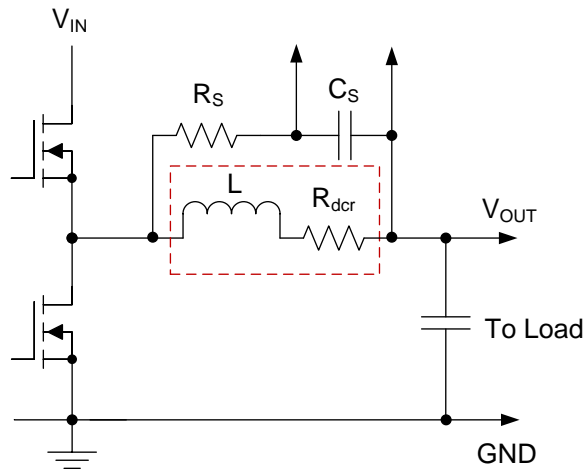
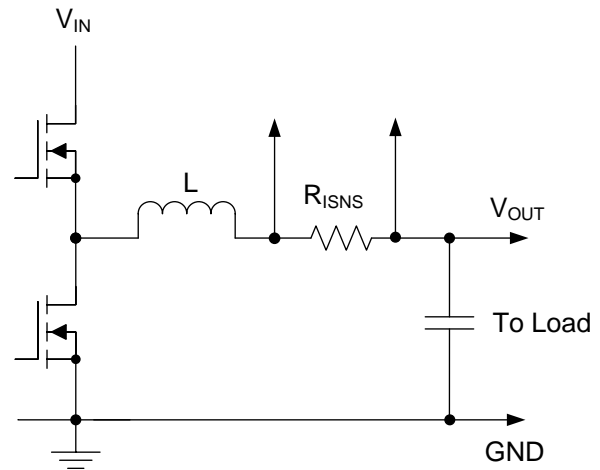
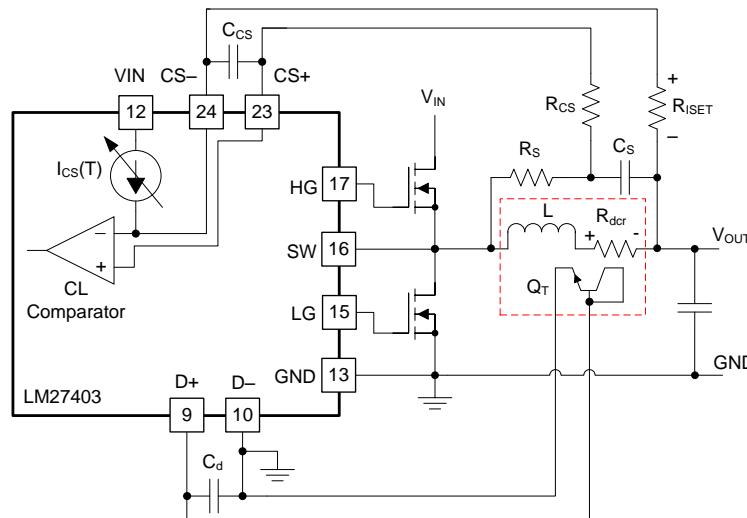

Figure 30. Current Sensing Using Inductor DCR
Figure 31. Current Sensing Using Shunt Resistor
Figure 32. Current-Limit Setpoint Defined by Current Source I_{CS} and Resistor R_{ISET}
As mentioned, the LM27403 implements an inductor DCR lossless current sense scheme designed to provide both accurate overload (current limit) and short-circuit protection. Figure 30 shows the popular inductor DCR current sense method. Figure 31 shows an implementation with current shunt resistor, R_{ISNS} .
Components R_{S} and C_{S} in Figure 30 create a low-pass filter across the inductor to enable differential sensing of the inductor DCR voltage drop. When $R_{\text{S}}C_{\text{S}}$ is equal to L/R_{DCR} , the voltage developed across the sense capacitor, C_{S} , is a replica of the inductor DCR's voltage waveform. Choose the capacitance of C_{S} greater than 0.1 μF to maintain low impedance of the sense network, thus reducing the susceptibility of noise pickup from the switch node.
The current limit circuit arrangement is portrayed in Figure 32. The current limit setpoint is set by a single external resistor, R_{ISET} , connected from the CS– pin to the output voltage terminal. The current sourced from CS– in combination with this series resistance sets the reference voltage to the current limit comparator, as governed by Equation 8.
Inductor DCR temperature compensation is automatically provided using the remote-diode sensed temperature. The temperature coefficient (TC) of the inductor winding resistance is typically 3720 ppm/°C. The current-limit setpoint is maintained essentially constant over temperature by the slope of CS– pin current over temperature. An increase in sensed DCR voltage associated with an increase of inductor winding temperature is matched by a concomitant increase in current limit comparator reference voltage. The inductor temperature is measured by placing an external diode-connected 2N3904 discrete NPN transistor, designated Q_T in Figure 32, in close proximity to the inductor (see the *Temperature Sensing: D+ and D–* section for more details).
Note that the inductor DCR is shown schematically as a discrete element in Figure 30 and Figure 32. The current-sense comparator inputs operate at common mode up to the input rail voltage. The comparator incorporates a very low input-referred offset to reduce the SNR of the voltage detected across the inductor DCR. The CS– pin current is specified down to a headroom compliance voltage of less than 0.8 V (that is, $V_{VIN} - V_{CS-}$) and over the full operating temperature range (see the Electrical Characteristics Table and Figure 13). The current source is powered from the input to allow the current limit circuit to work in high duty cycle applications.
With power inductors selected to provide lowest possible DCR to minimize power losses, the typical DCR ranges from 0.4 mΩ to 4 mΩ. Then, given a load current of 25 A, the voltage presented across the CS+ and CS– pins ranges between 10 mV and 100 mV. Note that this small differential signal is superimposed on a large common-mode signal that is the dc output voltage, which makes the current sense signal challenging to process. To aid in rejection of high frequency common-mode noise, a series resistor, R_{CS} , of same resistance as R_{ISET} , is added to the CS+ signal path as shown in Figure 32. A small capacitor, C_{CS} , added across CS+ and CS– provides differential filtering.
A current sense (or current shunt) resistor in series with the inductor can also be implemented at lower output current levels to provide accurate overcurrent protection, see Figure 31. Burdened by the unavoidable efficiency penalty and/or additional cost implications, this configuration is not usually implemented in high-current applications (except where OCP setpoint accuracy and stability over the operating temperature range are critical specifications). However, if a shunt resistor is used, temperature compensation is not required. In this case, short the D+ to D– pins to disable this function. The current sourced from CS– in this case becomes 5 μA (typical) and is independent of temperature.
In the PCB layout, component pads are recommended to install a small capacitor, designated C_d in Figure 32, between the D+ and D– pins as close to the LM27403 as possible. This capacitor should not exceed 1 nF for 2N3904-type devices. Locate an additional capacitor, typically 100 pF, at the BJT, when operating in noisy environments (for example, where leakage flux from the airgap of a ferrite inductor may couple into the adjacent circuit board traces).